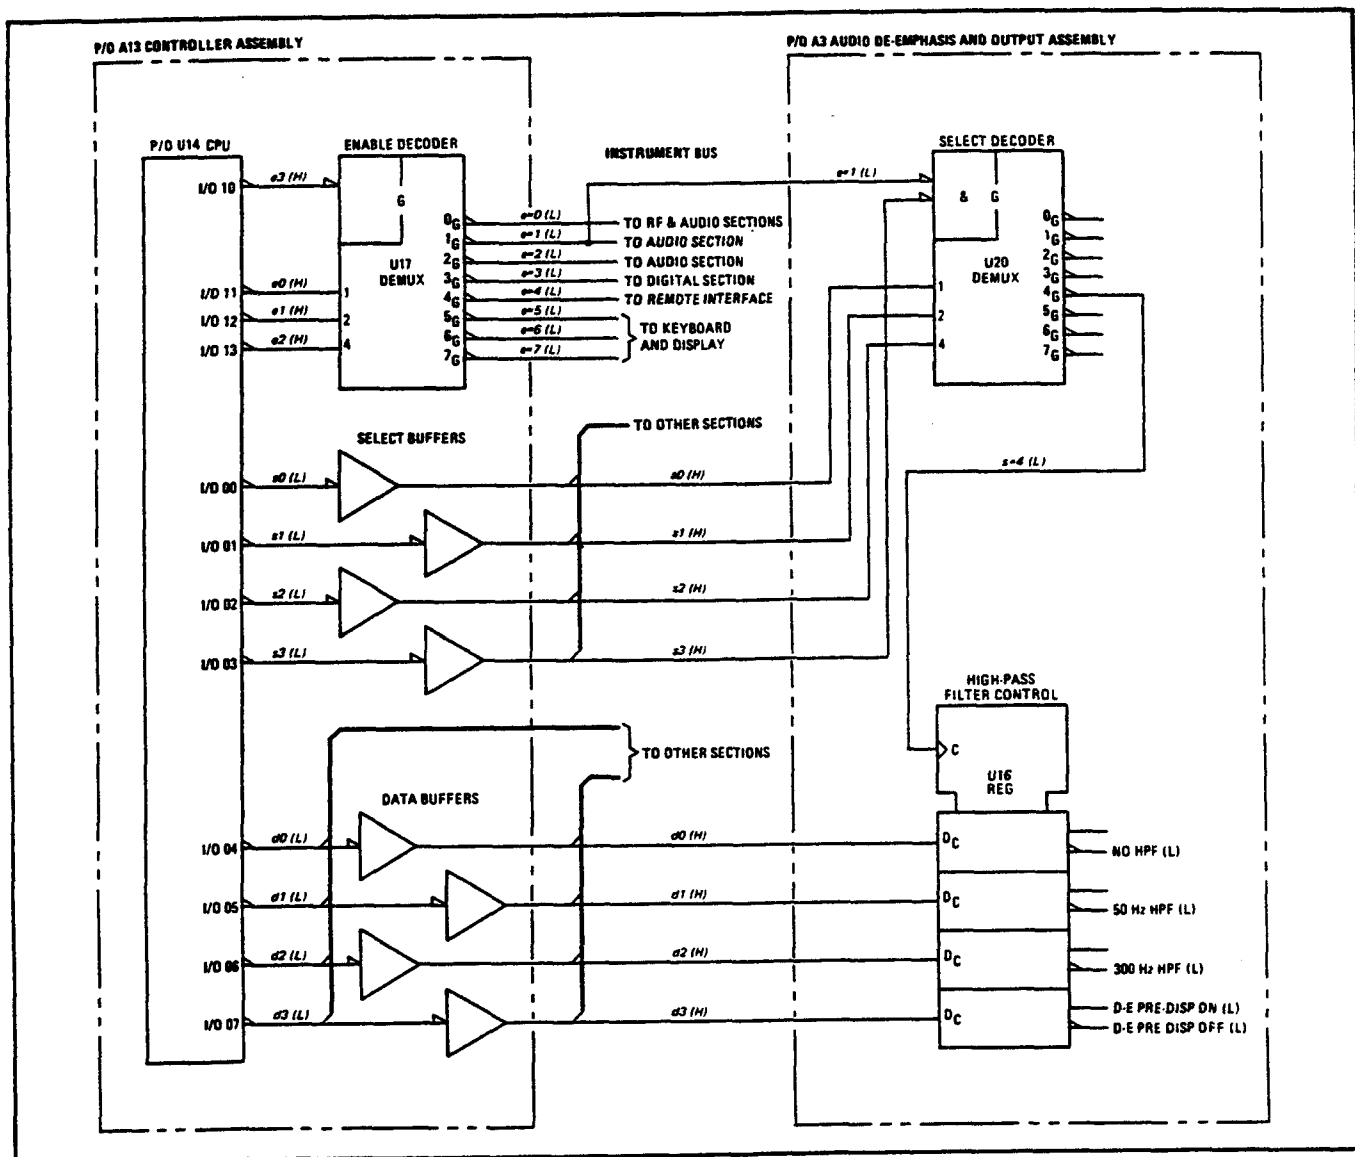

Figure 8-42. Example Showing Instrument Bus Hookup
Instrument Bus. Figure 8-42 shows a typical hookup on the Instrument Bus. The Instrument Bus lines are broken down into three groups: enable (e), select (s), and data (d). The enable code (e0 to e3) comes from I/O lines 10 through 13 of the CPU (A13U14).
The example of Figure 8-42 will be used to illustrate how the 50 Hz High-Pass Filter is selected. The filter (not shown) is activated when the output line of the High-Pass Filter Control (A3U16) labeled 50 Hz HPF(L) goes low. Register U16 is simply a latch; it does not decode the data. To activate the 50 Hz High-Pass Filter, the CPU sends out the binary enable code 0001 (hexadecimal 1), select code 0100 (hexadecimal 4), and data code 0010 (hexadecimal 2). The Enable Decoder activates the line e = 1(L). The decoder was enabled because e3(H) was low. Since s3(H) is low, and since e = 1(L) is also low, the Select